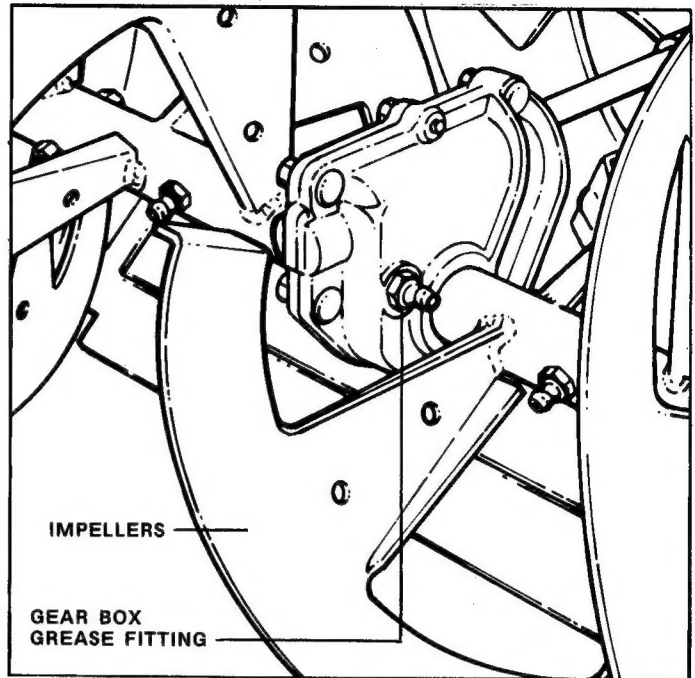

FIGURE 3.2
**3.5 GEARBOX LUBRICATION:** Grease ONCE EACH YEAR, or more often as required, with 5 shots of SNAPPER "OO" grease. See Figure 3.2.